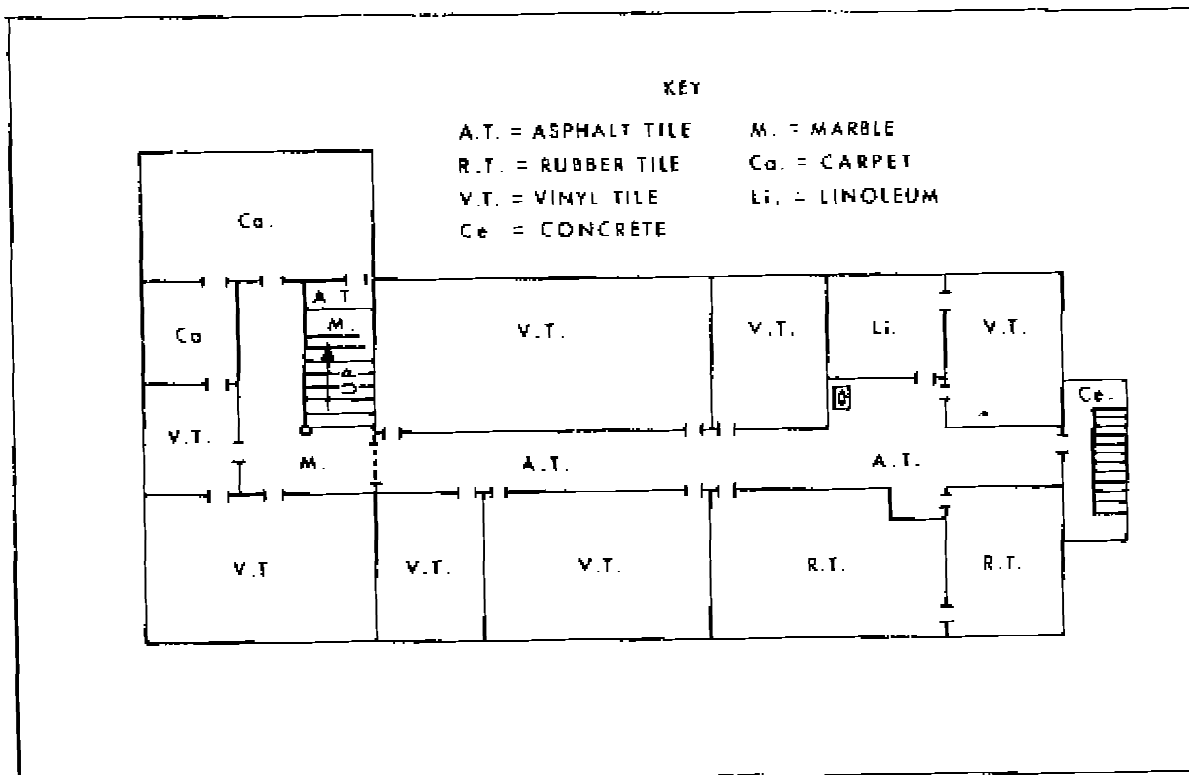

Figure 1. Planning Work by Floor Types.
2.1.2 Planned Operation. Typical planning must begin with a survey to obtain complete data on all components of a building and the amount and type of traffic using each area. *Example,* a diagram (fig. 1) showing the different types of floor covering may be devised. Since each type of flooring will require different care, the chart and its accompanying information may also be used for the procurement of materials.